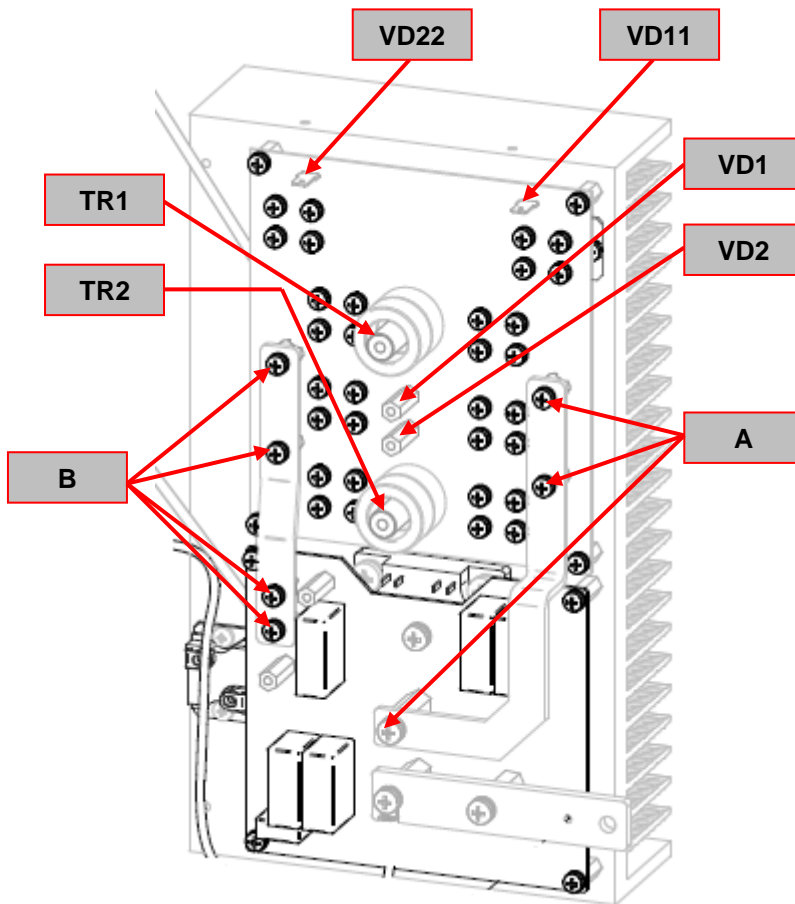

Figure 34
3. Locate the Output Diode board W05X1523 on the left side of the machine, see **Figure 34**
See **Figure 34**
6. Using the phillips screwdriver remove and label the main transformer leads connected to the terminals **TR1** and **TR2**. See **Figure 34**
7. Using the phillips screwdriver reinstall the 3 screws (**A**) to the right copper bar. (torque 3Nm max.). See **Figure 34**
8. Using the phillips screwdriver reinstall the 4 screws (**B**) to the left copper bar. (torque 3Nm max.). See **Figure 34**
9. Reconnect the previously removed and labeled cables to terminals **VD11** and **VD22**. See **Figure 34**
10. Using the phillips screwdriver reconnect the previously removed and labeled leads to the terminals **VD1** and **VD2** (torque 3Nm max.). See **Figure 34**
11. Using the phillips screwdriver reconnect the previously removed and labeled main transformer leads to the terminals **TR1** and **TR2** (torque 3Nm max.). See **Figure 34**